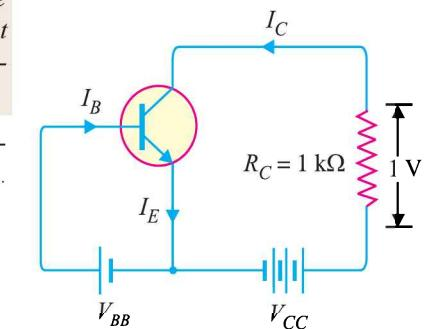

Fig. 8.21
**Solution.** Fig. 8.21 shows the required common emitter connection. The voltage drop across  $R_C(= 1\text{k}\Omega)$  is 1 volt.